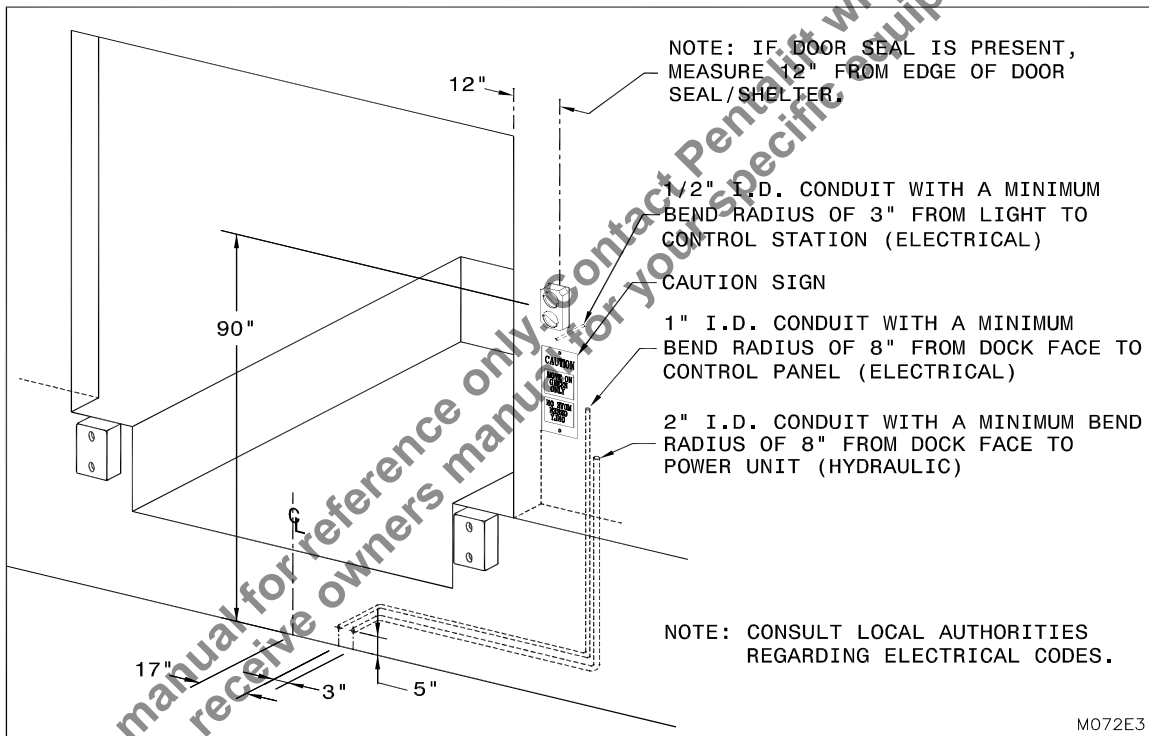

Figure 12: Conduit / Outside Light / Outside Sign Locations
4. ___ Mount the outside light approximately 90” high from the finished driveway level (See “Figure 12: Conduit / Outside Light / Outside Sign Locations” on page 16).